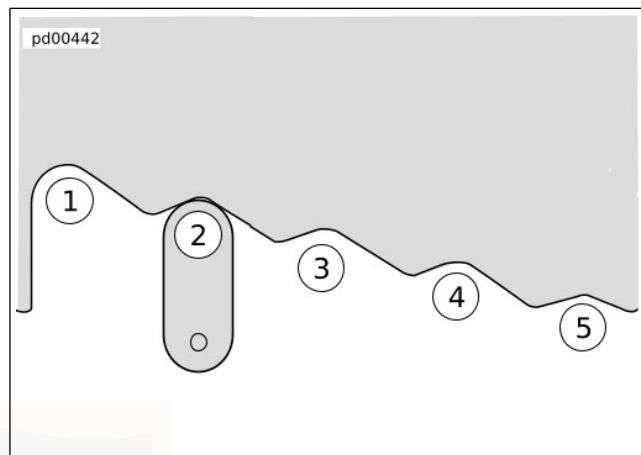

Figure 19. Shock Preload Cam Positions
** See Figure 19 for preload positions.